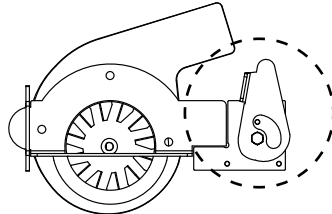
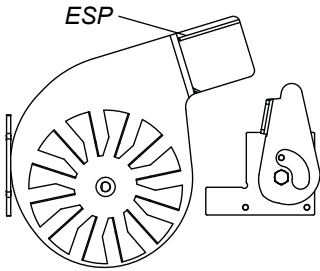

Fig. 32
Fig. 33
6. Remove the combustion blower cover by turning the blower cover latch vertical as shown in Fig. 32. Slide the cover out of the slot on the left. This will expose the combustion blower wheel and flue outlet. Fig. 33.